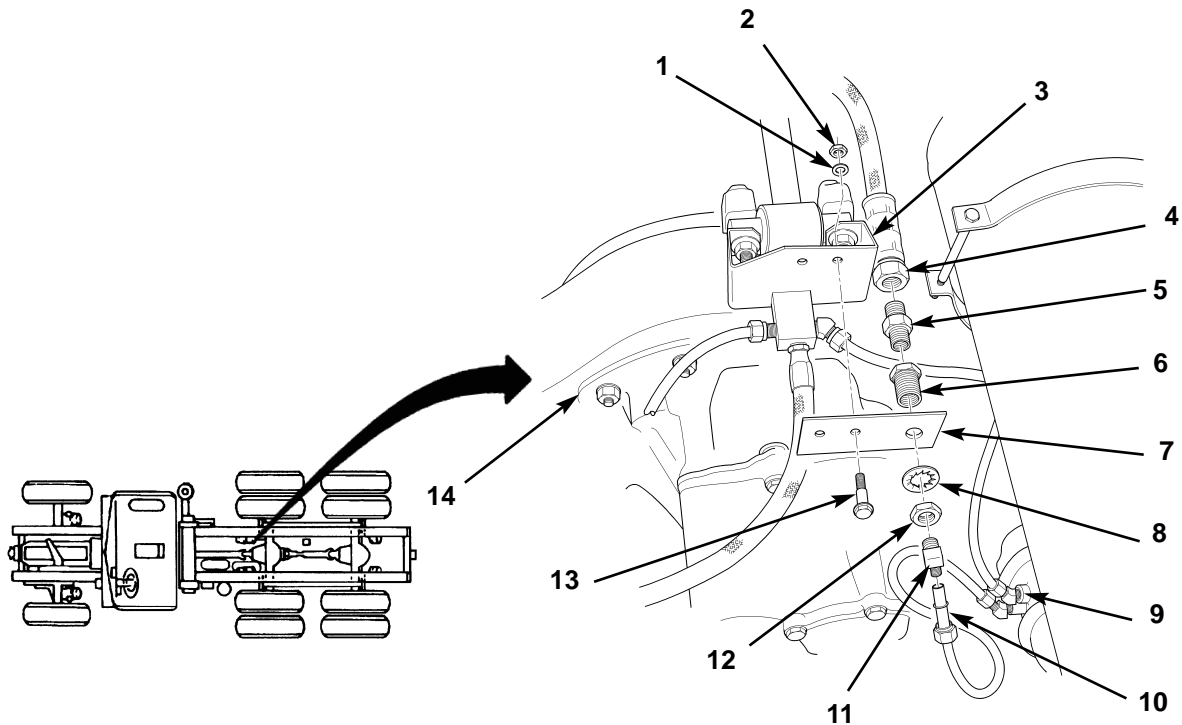

Figure 6. Removing Forward-Rear Axle Air Block.
1. Disconnect tube (figure 6, item 10) and hose assembly (figure 6, item 4) from elbow (figure 6, item 11) and adapter (figure 6, item 5) on spring brake chamber (figure 6, item 9) and forward-rear bulkhead fitting mount (figure 6, item 7).
2. Remove elbow (figure 6, item 11) and adapter (figure 6, item 5) from bulkhead fitting (figure 6, item 6).
3. Remove nut (figure 6, item 12), lockwasher (figure 6, item 8), and bulkhead fitting (figure 6, item 6) from forward-rear bulkhead fitting mount (figure 6, item 7). Discard lockwasher (figure 6, item 8).
4. Remove two locknuts (figure 6, item 2), washers (figure 6, item 1), screws (figure 6, item 13), and forward-rear bulkhead fitting mount (figure 6, item 7) from bracket (figure 6, item 3) at top of forward-rear axle (figure 6, item 14). Discard locknuts (figure 6, item 2).